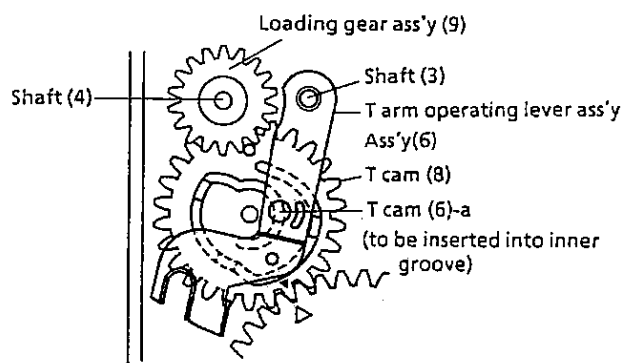

Figure 7-5-13(e)
- 8) Arrange the T cam holder (2) in the specified position, slide it in the arrow direction, and tighten the screw (1). (See Figure 7-5-13(f).)